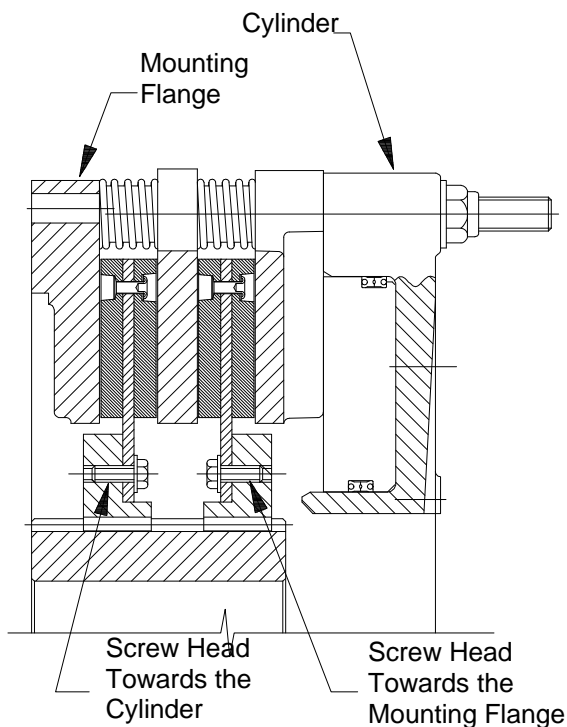

Fig. 10
- 4.2.10 Slide the friction disc assembly onto the gear, noting the orientation of the heads of the screws attaching the friction disc to the ring gear (37). See Fig. 10 and Table 9 for ring gear / screw head orientation.
i.e.: Fig 10 would be C,M.